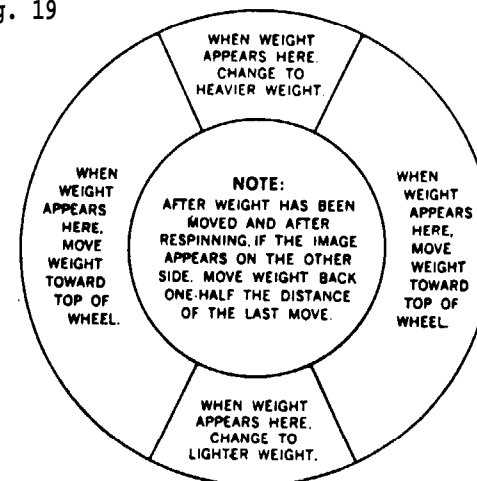

Fig. 20
- (A) After putting on the first weight where strobe has indicated, again spin the wheel. If weight is not at top or bottom of wheel, move the weight as shown in Fig. 20.
- (B) When the weight is at the top of the wheel, remove it, then attach the next-size-larger weight.